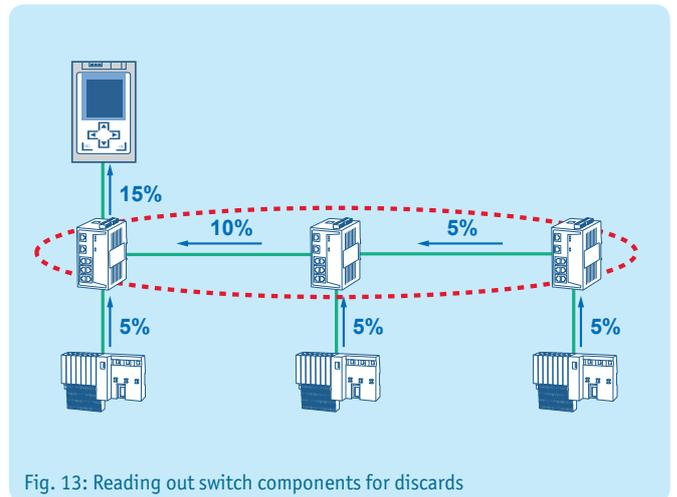

Fig. 13: Reading out switch components for discards
**PROscan® Active** determines the number of such discards (see Fig. 13) and the number of defective telegrams (CRC errors) from the devices and displays them in a table. This provides clues as to potential causes of error.